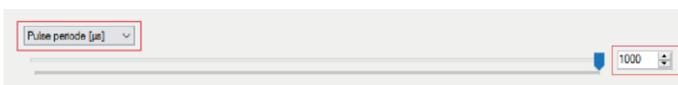

Figure 48: Pulse period
- Set Pulse period [μs] or [fps] (Figure 48, Page 58).